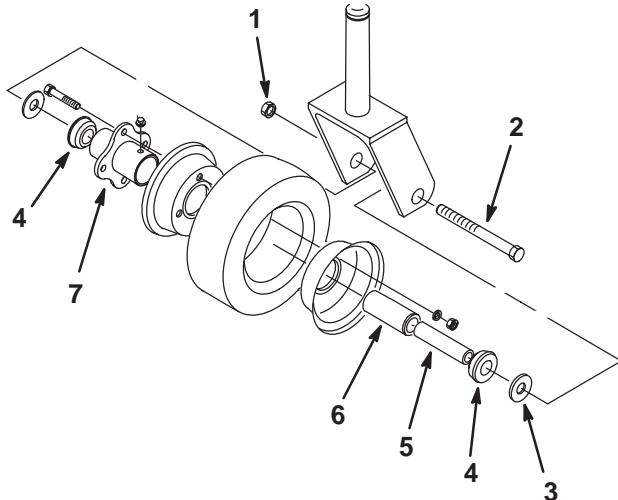

Figure 35
- Install the washers on the outsides of the bushings, then install the castor wheel into the castor fork and secure with the wheel bolt and locknut. Tighten the locknut until the spanner bushing bottoms against the inside of the castor fork (Fig. 35).
- Remove the locknut and wheel bolt holding the castor wheel to the castor fork (Fig. 35).
- Remove the washer and bushing, then pull the spanner bushing and roller bearing out of the wheel hub (Fig. 35).
- Remove the other washer and bushing from the wheel hub and clean any grease and dirt from the wheel hub (Fig. 35).
- Inspect the roller bearing, bushings, spanner bushing and inside of the wheel hub for wear. Replace any defective or worn parts (Fig. 35).